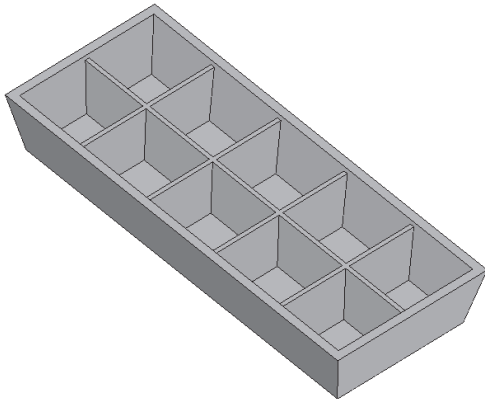

Figure 8-71 Model after creating the web network
8. Choose the **Preview** button and then choose the **Finish** button from the ribbon bar to complete the web network, see Figure 8-71.